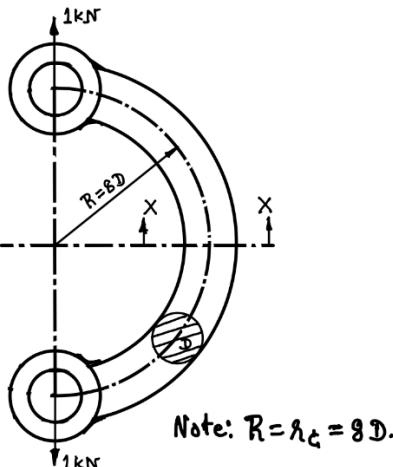

Figure 1b
b) Determine the diameter  $D$  of a curved beam as shown in Figure 1b below. Assume yield stress of the beam material as 300 MPa and the factor of safety for the beam as 3. **10**